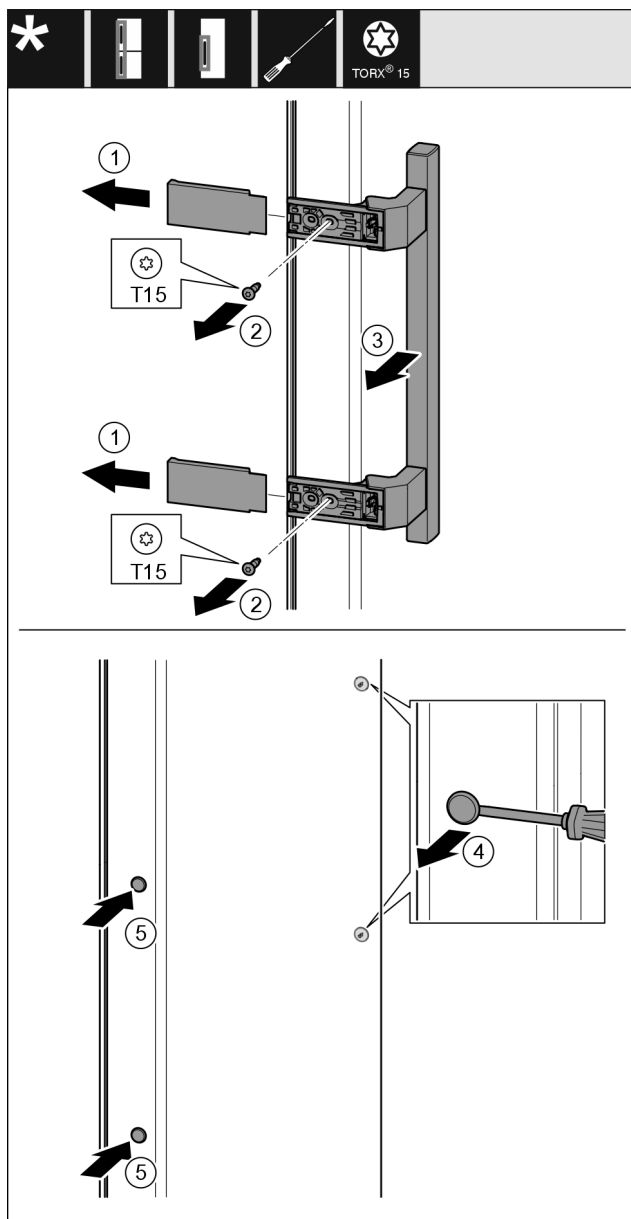

Fig. 22
- ▶ Pull off the cover Fig. 22 (1).
- ▶ Turn out the screws Fig. 22 (2) with the screw driver.
- ▶ Remove the handle Fig. 22 (3).
- ▶ Carefully lift the side plug Fig. 22 (4) with a slotted screwdriver and pull it out.
- ▶ Reinsert the plug Fig. 22 (5) on the other side.